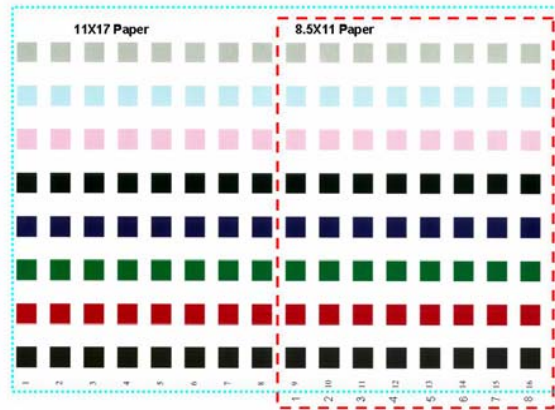

Figure 1 Test Pattern
7. Select **Test Print** to output the Test Pattern (Figure 1).